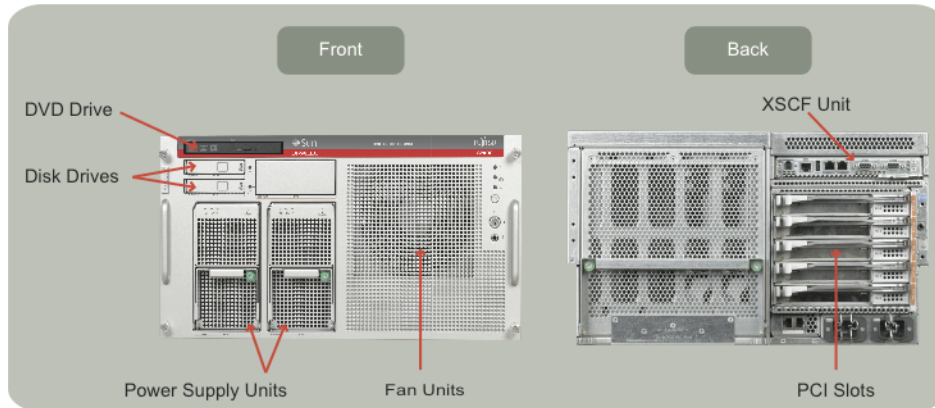

Figure 3. SPARC Enterprise M4000 server enclosure diagram
The SPARC Enterprise M4000 server enclosure measures six rack-units (RU) and supports up to four processor chips, 256 GB of memory, and up to two Dynamic Domains. In addition, the SPARC Enterprise M4000 server features four short internal PCI Express slots and one short internal PCI-X slot, as well as two disk drives, one DVD drive, and an optional DAT tape drive. Two power supplies and four fan units power and cool the SPARC Enterprise M4000 server. Front and rear views of the SPARC Enterprise M4000 server are found in Figure 3.